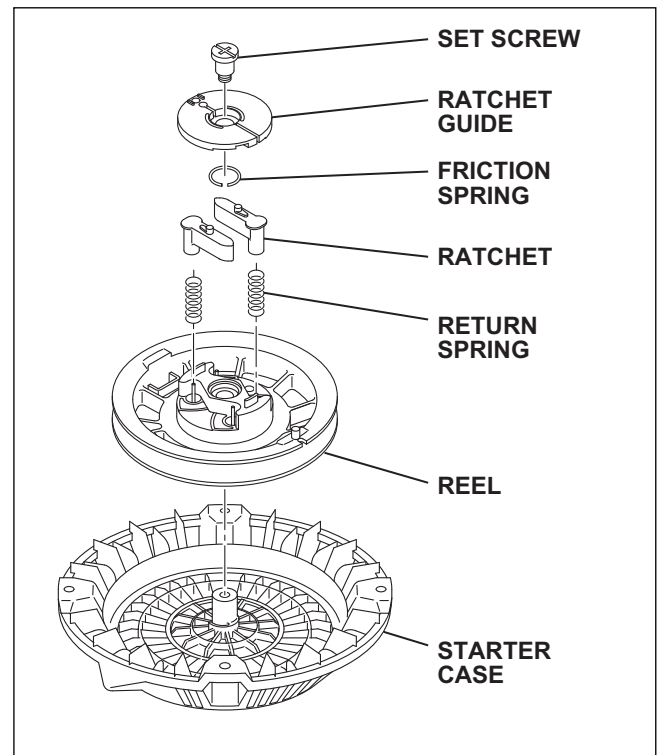

Fig.14-2
(2) Remove the components. (Fig. 14-2)
(3) Remove the reel. (Fig. 14-2)
- 3 If the spring is about to pop out of the reel, repeat steps (3)-1 and (3)-2.